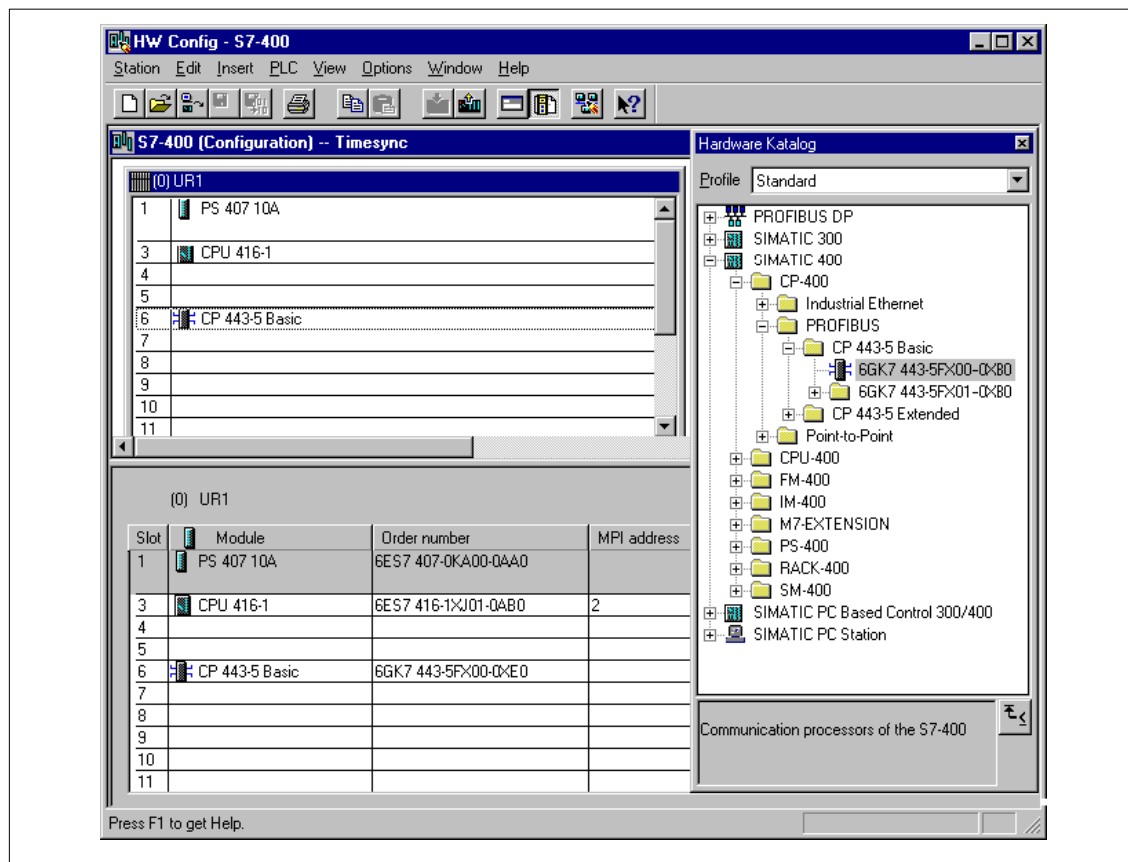

Figure 7-13 Configuring the Hardware of the S7-400 Station
1. Select the components listed below and configure them as shown in Figure 7-13.